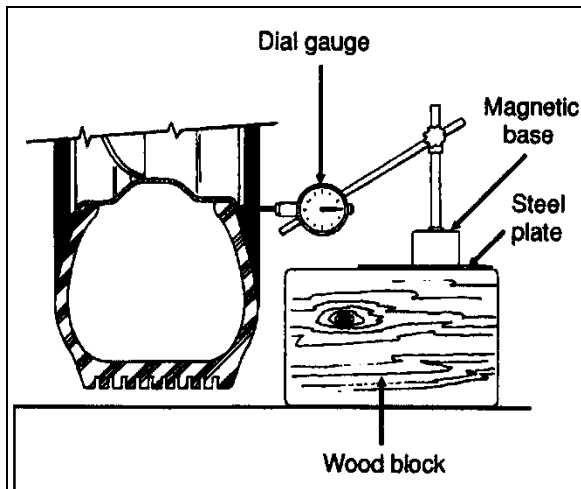

FIGURE 3: DIAL GAUGE INSTALLATION 13008
2. Check wheel lateral run-out. Install a dial gauge as shown in Figure 3, then rotate the wheel by hand one full turn. As the wheel turns, note any variation on the dial gauge;